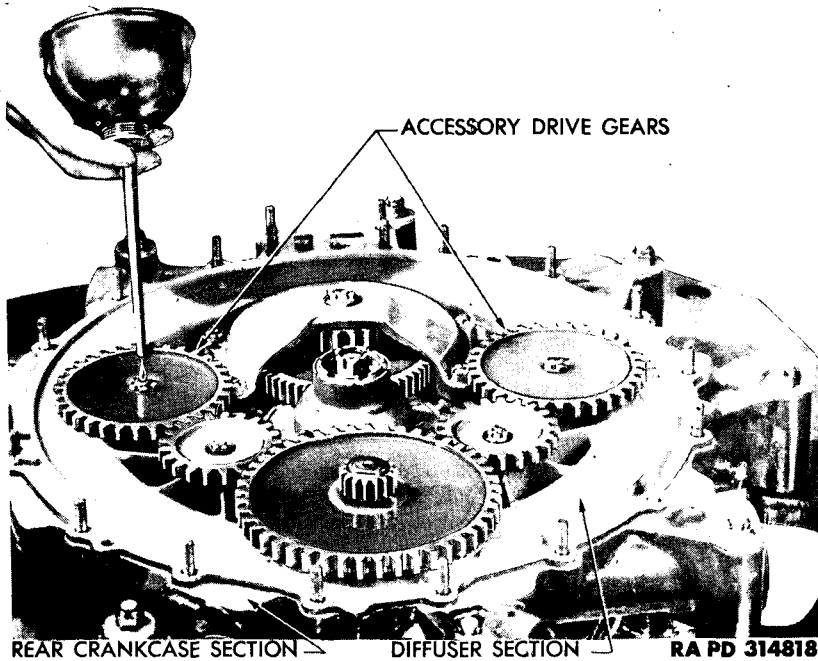

Figure 208 – Filling Gear Recesses with Oil
s. Fill Gear with Oil. Fill the recess in all gears in the diffuser section gear train with light engine oil (fig. 208). The recesses hold approximately 1 quart of oil.